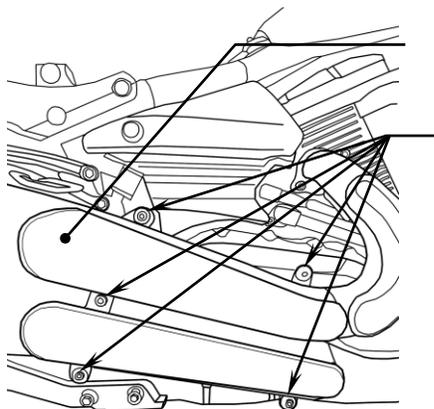

FIGURE 1
3. Remove the (5) M6 Socket Head Screws retaining the chrome heatshield cover on the stock exhaust, see Figure 1, to gain access to the exhaust power valve assembly.